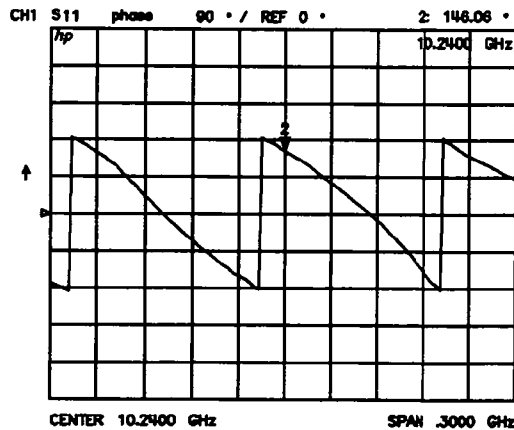

Figure 5-11. Phase Format
**PHASE** (PHAS) displays the phase shift of the data versus frequency in a Cartesian format, as illustrated in Figure 5-11. A measurement of phase response is described in the *User's Guide*.